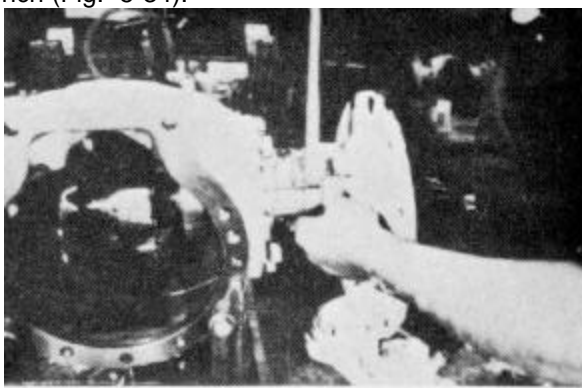

Figure 5-34
1. Remove the eight 5/8 - 16 nuts from the studs on the differential housing using a 15/16 inch socket or box wrench (Fig. 5-34).